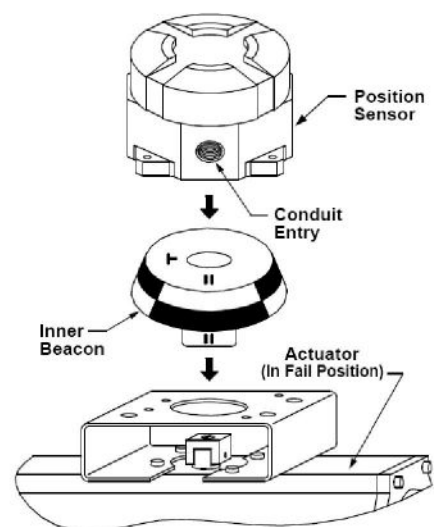

Figure 3-3
Step 2. Press fit the inner beacon to the inner beacon coupler. The inner beacon needs to be properly oriented. Use the symbols on the top of the inner beacon to mount as shown in Condition 1 or Condition 2. (See Figure 3-3). Condition 1 and Condition 2 show the placement of the inner beacon with respect to the position sensor housing while the actuator is in the fail position.